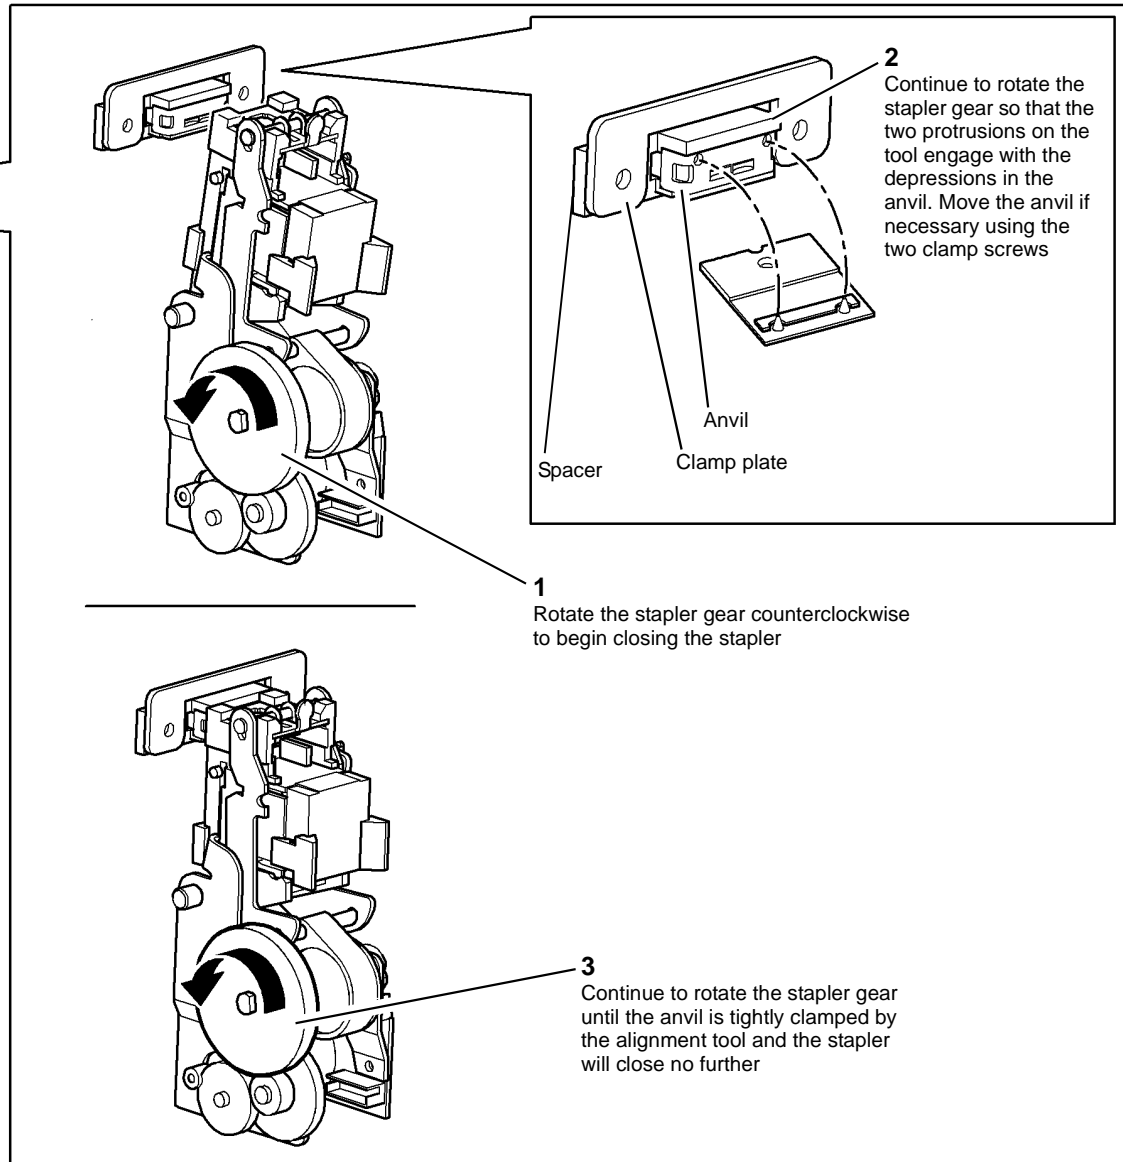

Figure 3 Closing the stapler
NOTE: Take great care not to drop the anvil, spacer or clamp plate, Figure 3, as they can fall to the bottom of the BM module. If parts need to be retrieved from the bottom of the BM module it may be necessary to tilt the whole HVF BM to make the loose parts slide to the centre of the base, from where they can be easily removed.
- Close the stapler, Figure 3.
6. Open the stapler fully by use of the stapler gear, **Figure 3**, then remove the alignment tool.